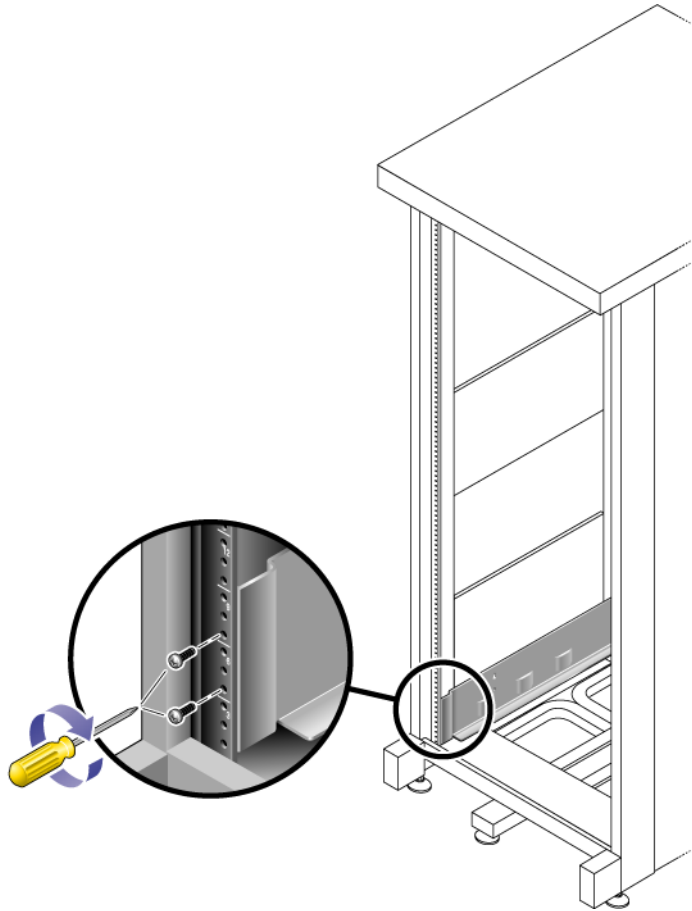

FIGURE 2-16 Securing the Left Rail to the Front of the Cabinet
- b. Use the #2 Phillips screwdriver to insert and tighten two 8-32 screws to secure the rail to the front of the cabinet (FIGURE 2-16).**